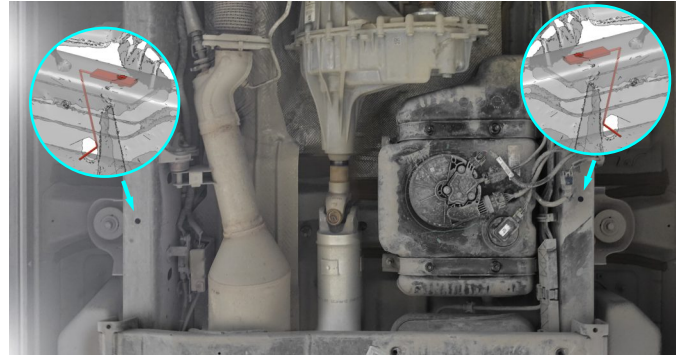

Fig. 2
2. Install insert nuts M10 with wire (item B) (fig.2).